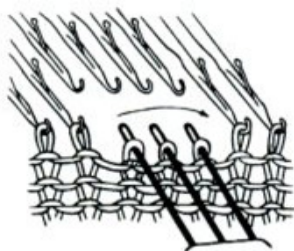

Fig. 61
- 2) Use the 3 needle transfer tool, starting from either end, transfer all the stitches outward in either direction until the required needle is free. (See Fig. 61)